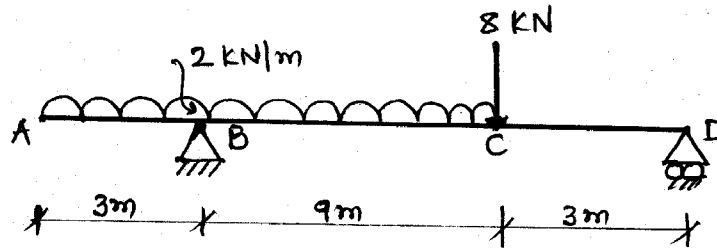

Fig. 1.
- 2 (a) Draw SFD and BMD for the beam shown in Fig. 1. Also determine maximum value of shear force and bending moment. Locate point of contraflexure if any : 10